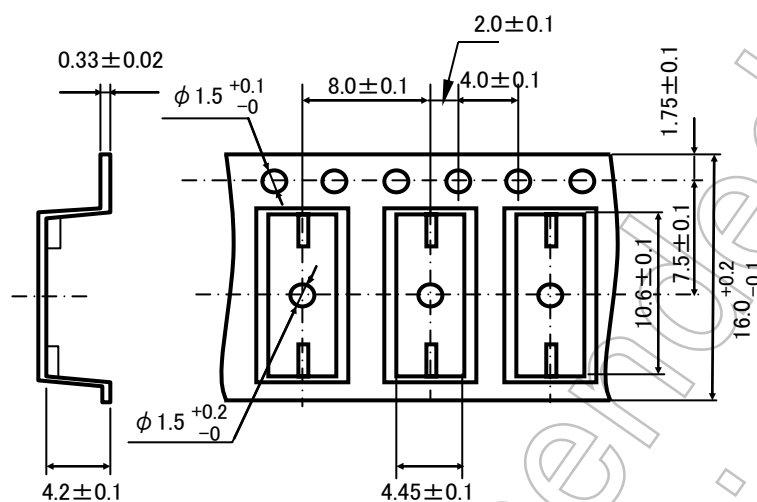

Figure 2 Tape Forms
- (1)Tape material: Plastic
(2)Dimensions: The tape dimensions are as shown in Figure 2.